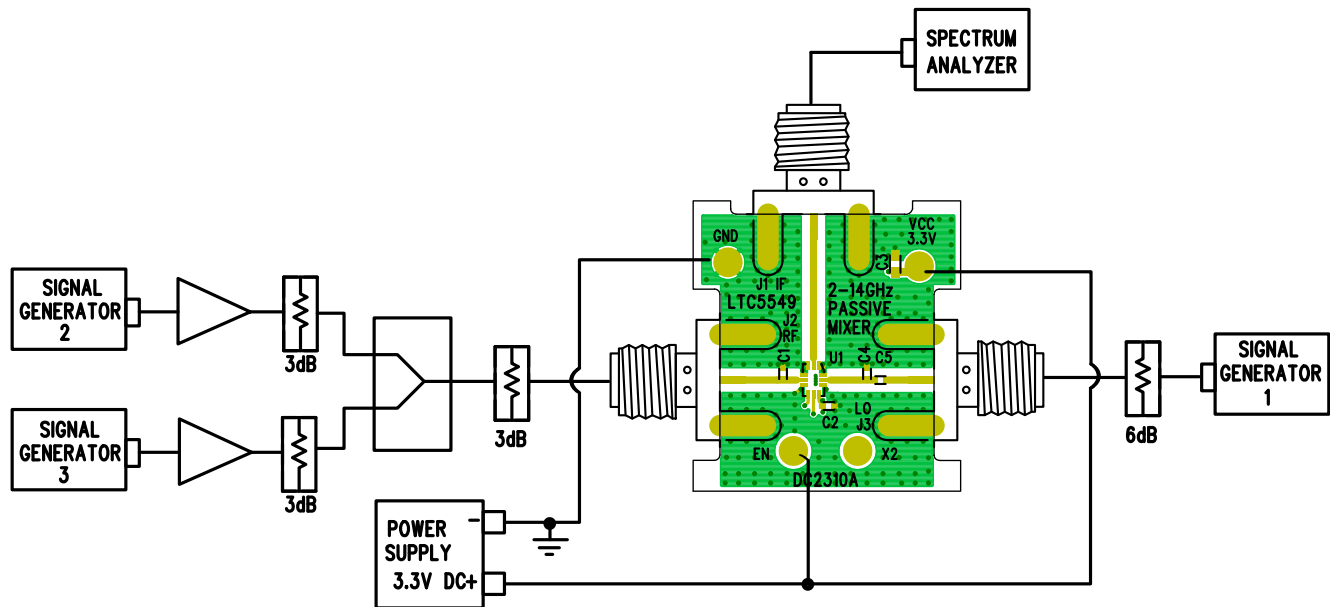

Figure 2. Test Setup for Downconverting Mixer 2-Tone Measurements
1. Connect all test equipment as shown in Figure 2.